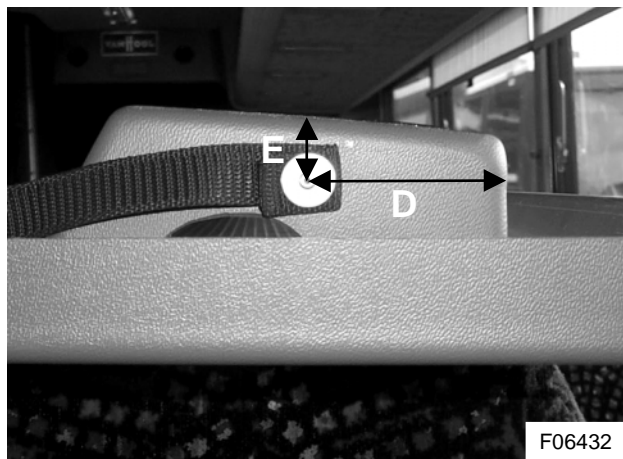
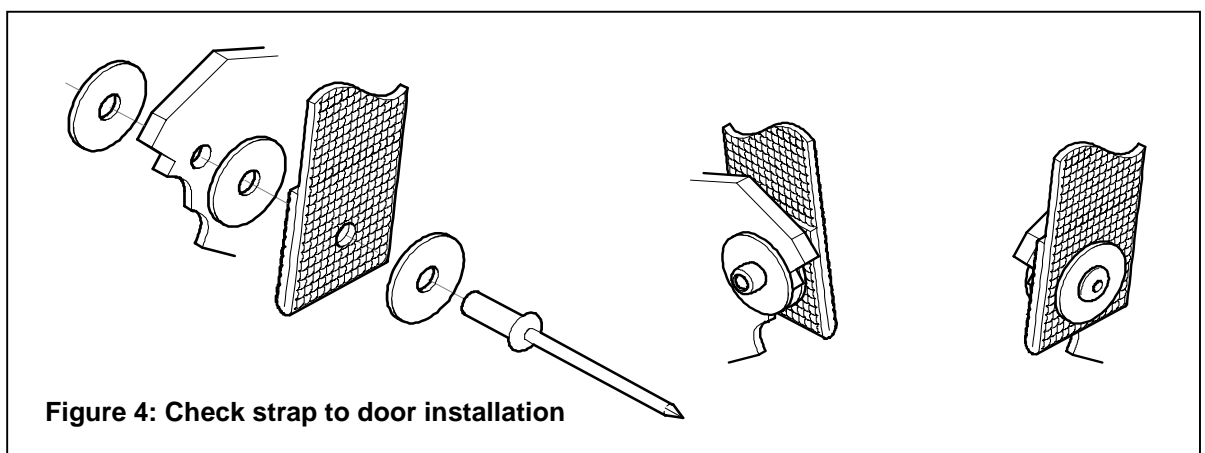

Figure 3: Drilling dimensions for rivet hole.
Figure 4: Check strap to door installation
- 3) In the molding recess, on the inside of the access door, drill a hole in both the front and the rear end using a 1/8 inch drill bit. Refer to the dimensions provided in Figure 3.
- 4) Fold the plain end of the straps as shown in Figures 3 and 4. With an awl, pierce a suitable hole for a rivet to pass. Using the rivets and washers, install check strap VH 10767069 (16-17/32 inch; 420 mm) in the front end and check strap VH 10767068 (18-57/64 inch; 480 mm) in the rear end of the molding recess (see Figure 4).